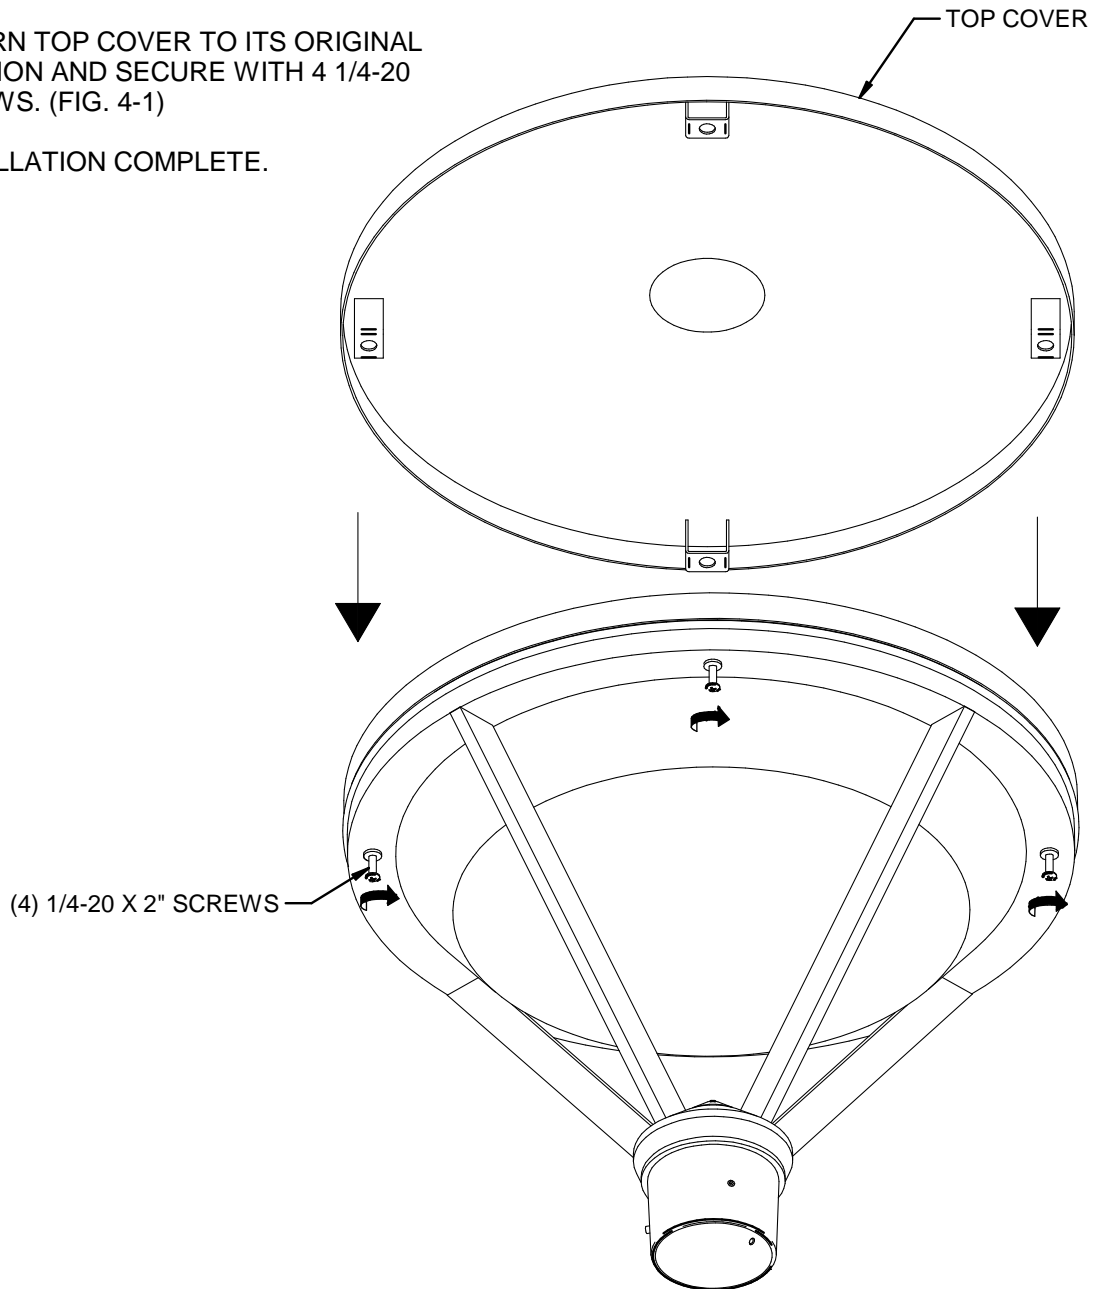

FIG. 4-1
1. RETURN TOP COVER TO ITS ORIGINAL POSITION AND SECURE WITH 4 1/4-20 SCREWS. (FIG. 4-1)